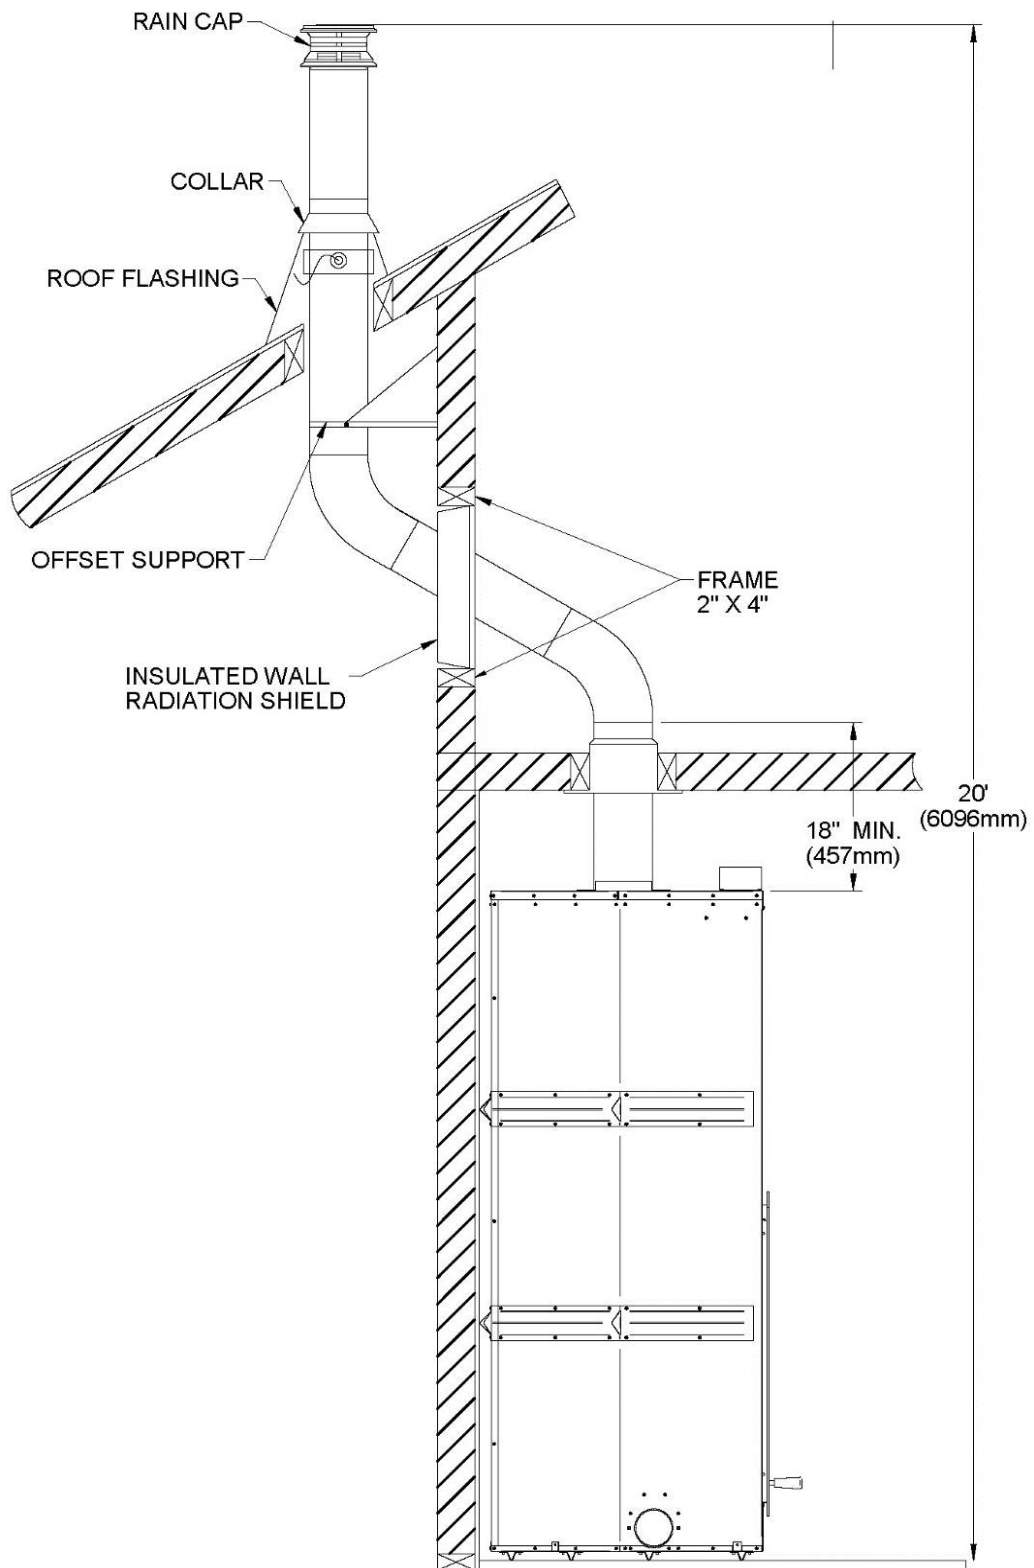

Figure 32
5. From below, install a firestop supplied by the chimney manufacturer (**see Figure 32**).